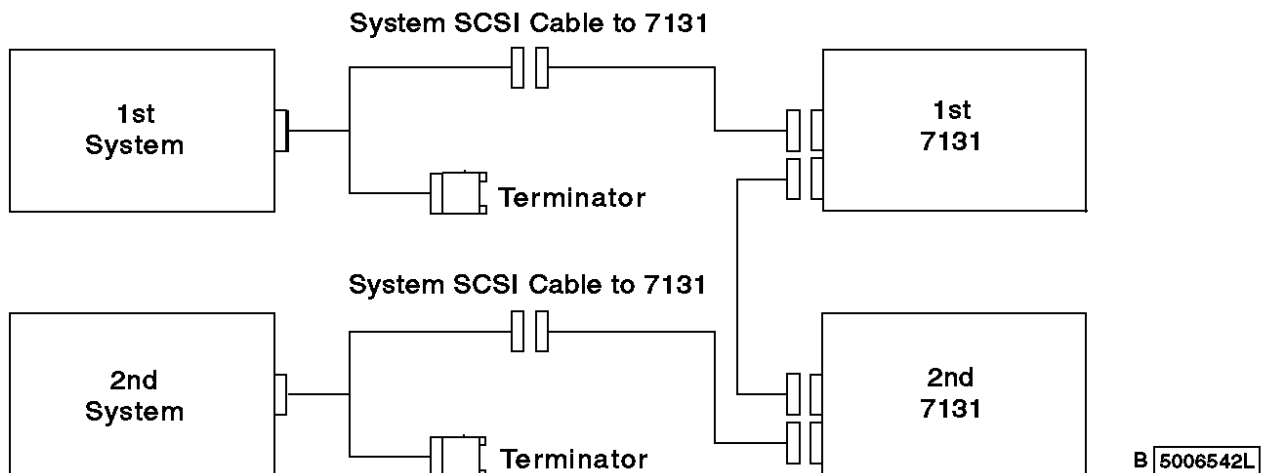

Figure 3-12. Two 7131 Storage Towers Connected to Two Systems
Use the following procedure to connect two 7131 Storage Towers to two systems (Figure 3-12).
7. Connect the tower-to-tower SCSI cable from the first 7131 Storage Tower to the second 7131 Storage Tower (see Figure 3-12).